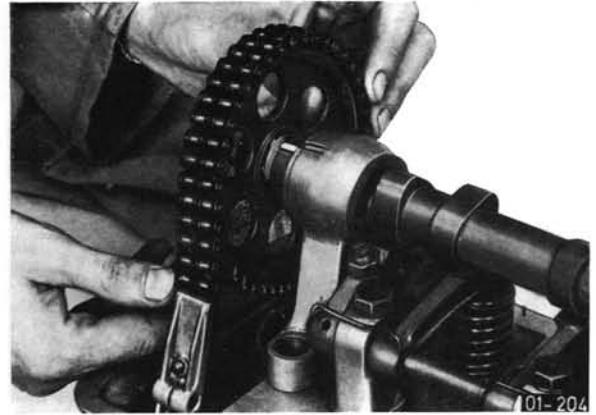

Fig. 05-4/1
2. Position crankshaft in direction of rotation of engine to first cylinder TDC (working stroke). The notch of the compensating disc behind the sprocket wheel of the camshaft should be in alignment with the mark on the first camshaft bearing. Fig. 05-4/1.
4. Unscrew fastening screw for camshaft gear on camshaft. Fig. 05-4/2.